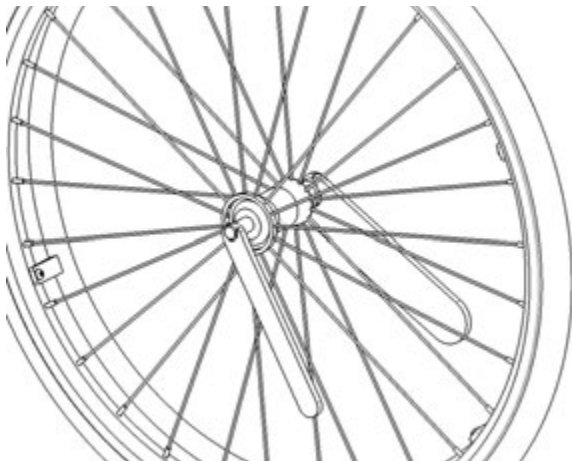

Fig. 33
- Hold the axle with a wrench at the other end (near the detent balls) (Fig. 33) and turn the nut behind the quick release button to change the length of the axle.